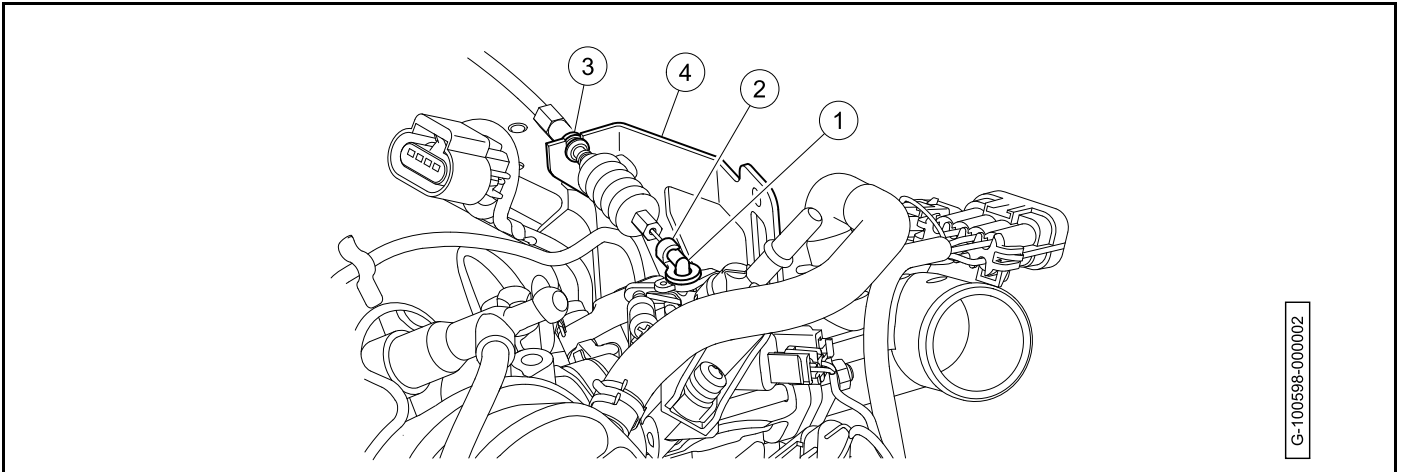

Figure 22-1 Governor Cable Removal - Throttle Body
- 3.2. Remove the governor cable fitting (1) from the linkage retainer (2) (**Figure 22-1, Page 22-3**).